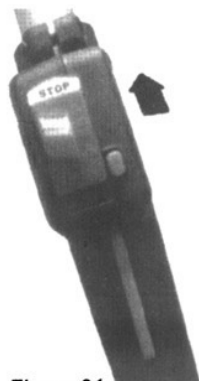

Figure 31
2. Open the choke (Figure 31) and fully depress the throttle trigger with your left hand, then pull the starter handle rapidly with your right hand to clear excess fuel from the combustion chamber.
2. Slide the ignition switch to the "o" or STOP position. See Figure 31.